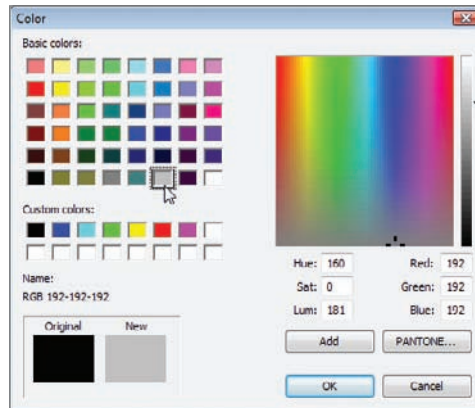

FIGURE 12.26 Selecting the gray color (RGB 192-192-192)
9. In the Color dialog, click the Gray tile, as shown in Figure 12.26. (The color is actually RGB 192-192-192.)